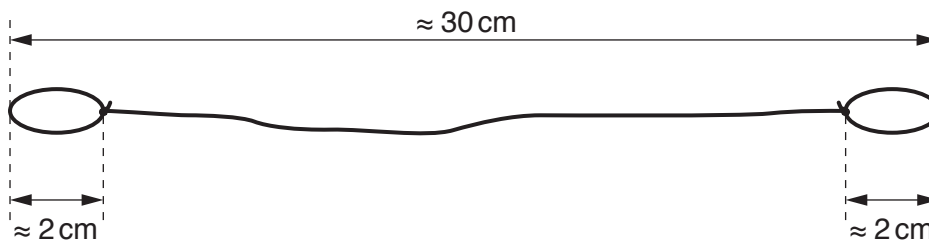

Fig. 2.2
- 3 Each of the strings should have a loop at each end and approximate dimensions as shown in Fig. 2.2.